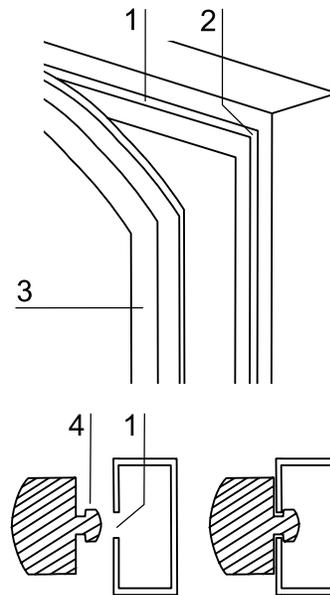

Fig. 25
1. **Fig. 25:** Pull magnetic seal [3] out of the guide slot [1].